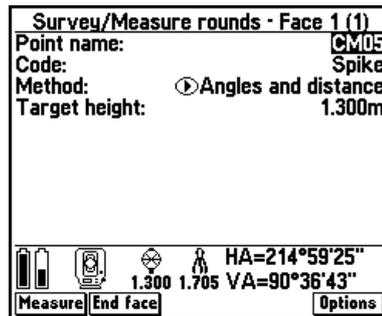

Figure 4.6 Survey/Measure rounds screen
1. From the *Survey* menu, select *Measure rounds*. The *Survey/Measure rounds* screen appears, as shown in Figure 4.6.